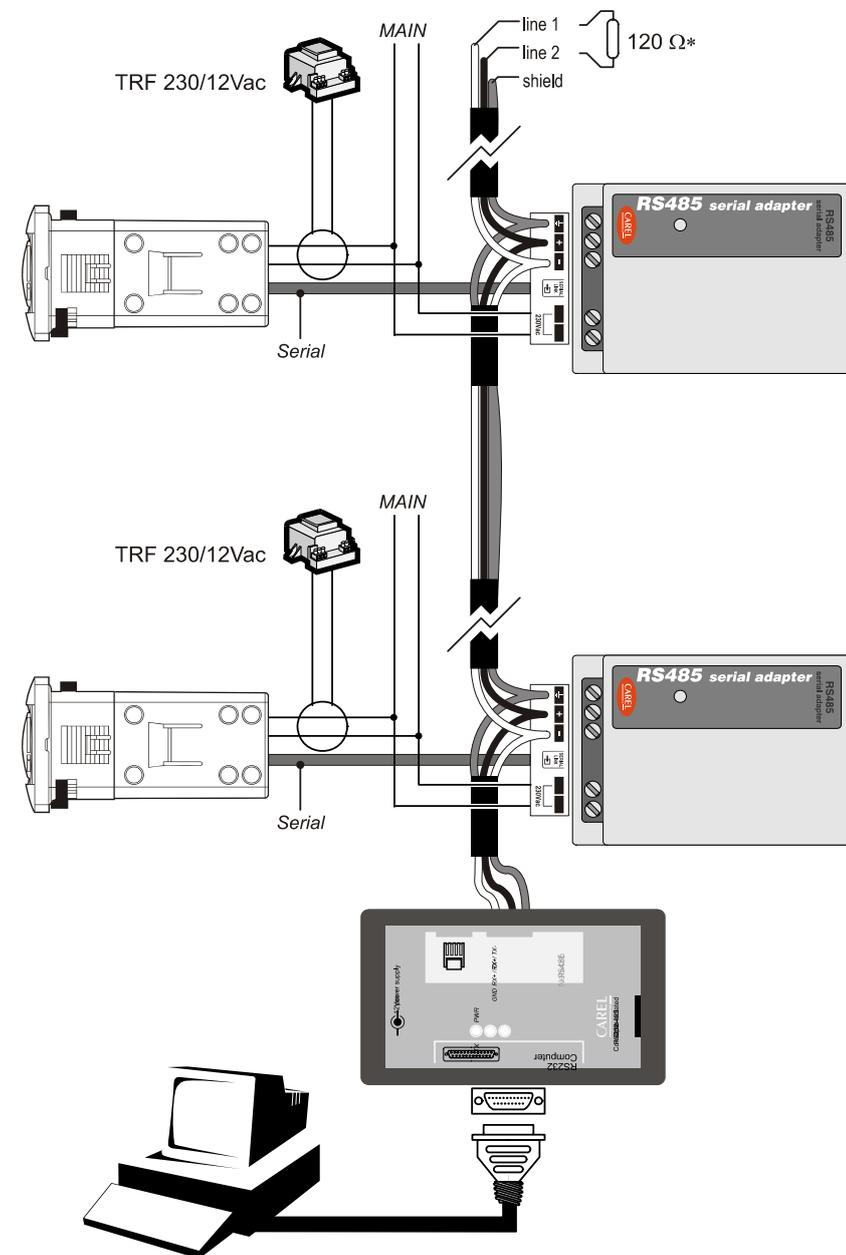

Fig. 8.2.1
- 230Vac mains power connections to terminals 1 and 2, as in Figure 8.2.1 (indicated by **230Vac** on the module);
- RS485 serial connection on terminals 3, 4, 5 as in Figure 8.2.1 (indicated by **—**, **+** and **≡** on the module).